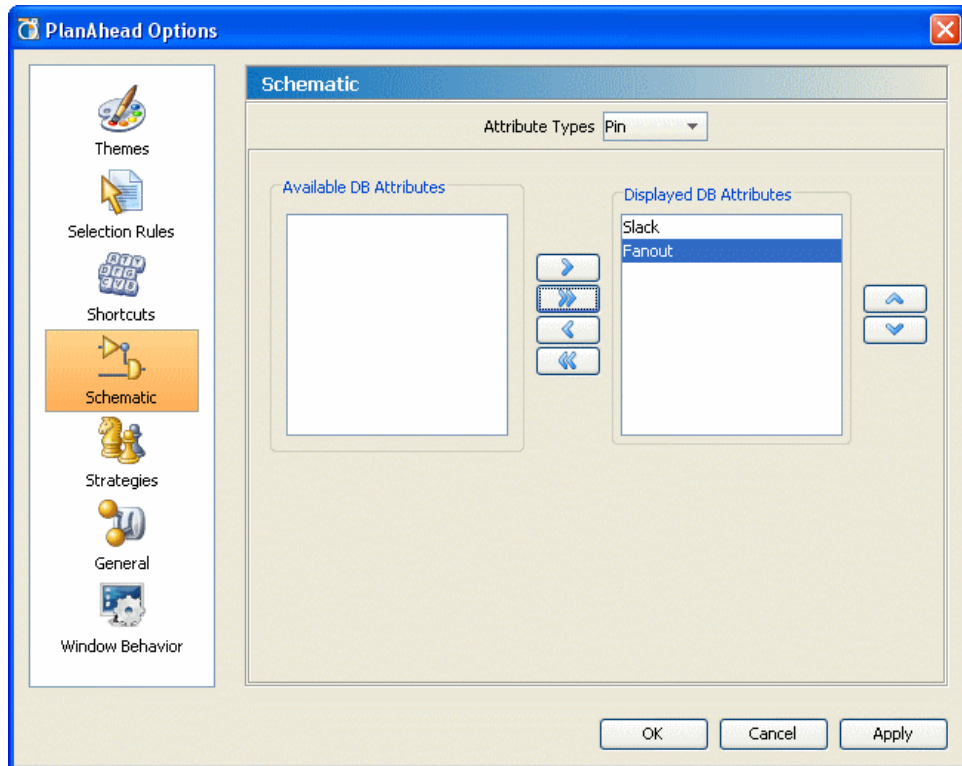

Figure 4-49: PlanAhead Options: Schematic Instance Annotation
2. Select the values to annotate on the left side of the dialog box shown in Figure 4-49, and use arrows to move them to the right side labeled **Displayed DB Attributes**.